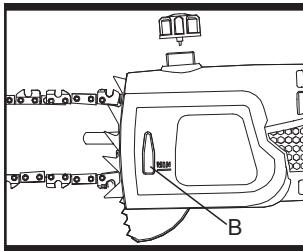

Fig. 7
The oil tank level can be checked by way of the oil level gauge (B). Check oil level gauge prior to start-up and regularly during operation. Refill oil when oil level is lower than "MIN" marking. (See Fig.7)
- a). Set pruner on any suitable surface with oil tank cap (13) facing upward.